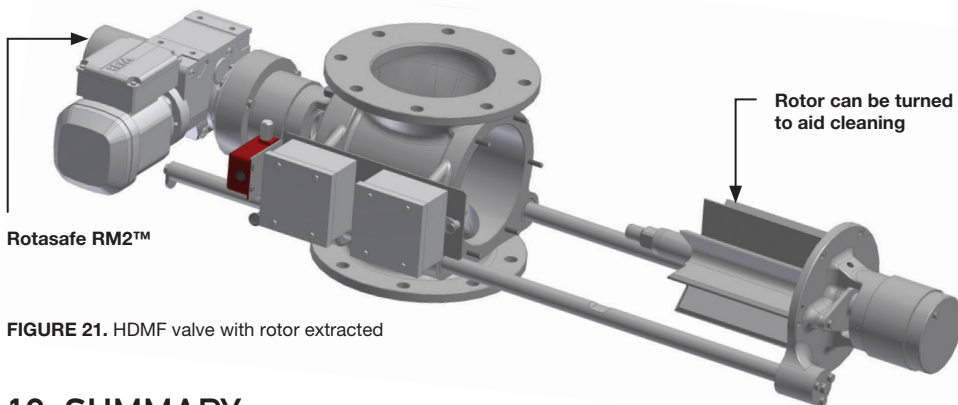

FIGURE 21. HDMF valve with rotor extracted
- Easy, contact-free withdrawal and return of internal components for cleaning that ensures the safety of the operator and eliminates the risk of damage of the components and surface finish – **See Figure 21.**